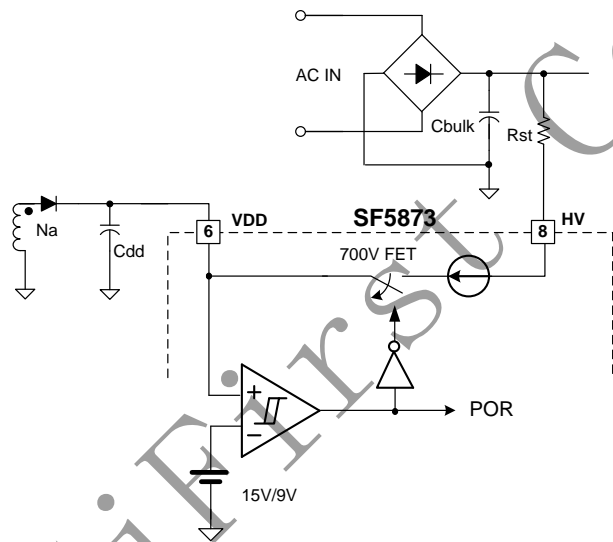

Fig.1
SF5873 Integrates proprietary HV-mW™ technology to achieve less than 50mW standby power. The core of HV-mW™ technology is related a built-in 700V startup circuit and standby control. Fig.1 shows the high voltage (HV) startup circuit for SF5873 applications. The HV pin is connected to the line input or bulk capacitor through a resistor. During startup, the internal startup circuit is enabled and a HV current source charges the VDD hold up capacitor Cdd through Rst. When VDD reaches UVLO turn-on voltage of 15V(typical), SF5873 begins switching and the IC current consumed increased to 2mA (typical). The hold-up capacitor Cdd continues to supply VDD before the energy can be delivered from auxiliary winding Na. During this process, VDD must not drop below UVLO turn-off voltage (typical 9V).